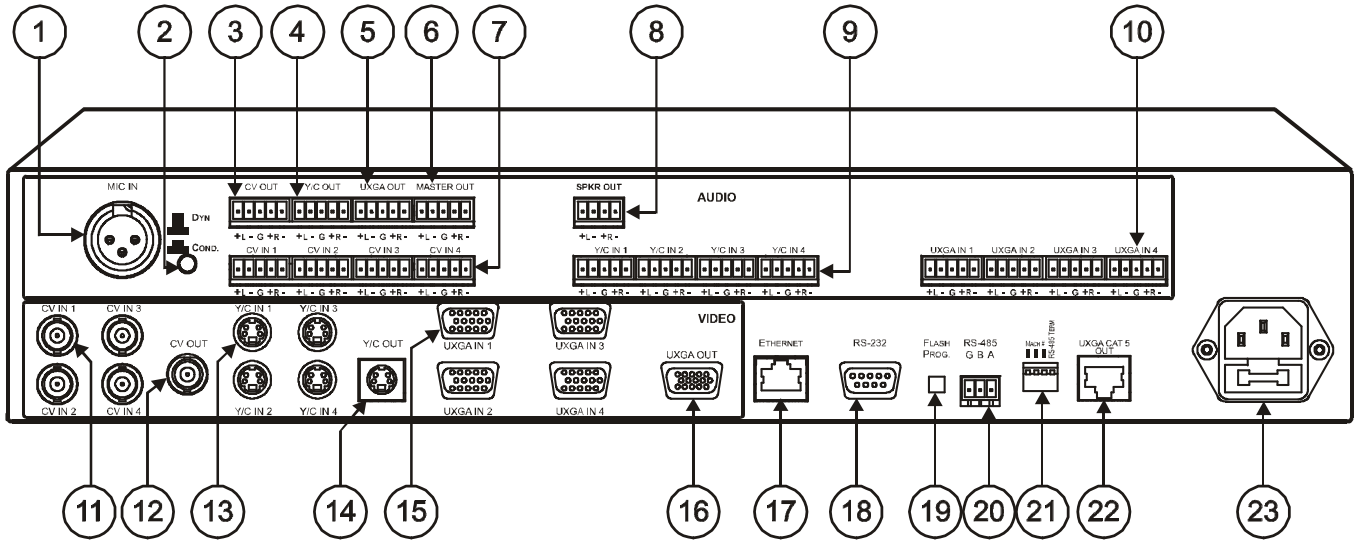

Figure 2: VP-23N Presentation Switcher – Rear View
3 Use the Con / Dyn switch (refer to the rear panel, item 2 in Figure 2) to select a dynamic microphone or a condenser